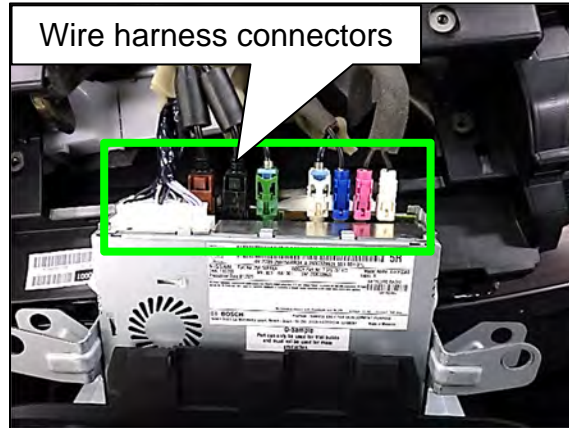

Figure 96
65. Pull the AV control unit outward, remove the wire harness connectors (Figure 96), and then remove the AV control unit.